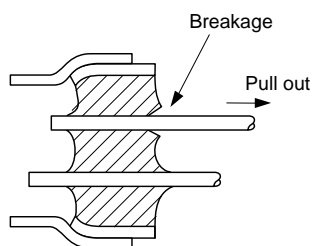

Figure 3
- (1) DO NOT pull the lead excessively if unbending a lead or removing a crystal unit. The excessive force may crack the glass and reduce the degree of vacuum. This may eventually result in deterioration of the characteristics and may also break the crystal chip see Figure 3).